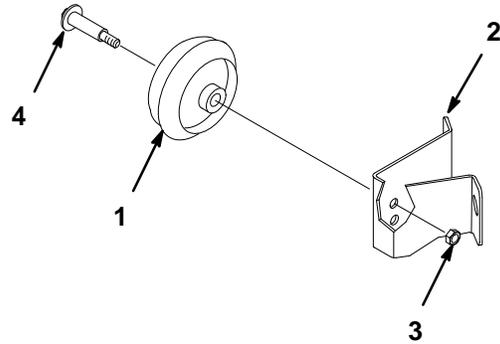

Figure 6
1. To change the height of mower wheels remove wheel mounting bolt and change hole into which it is mounted (Fig. 6).
2. Use the top hole for lowest height-of-cut and the bottom hole for higher heights-of-cut (Fig. 6).